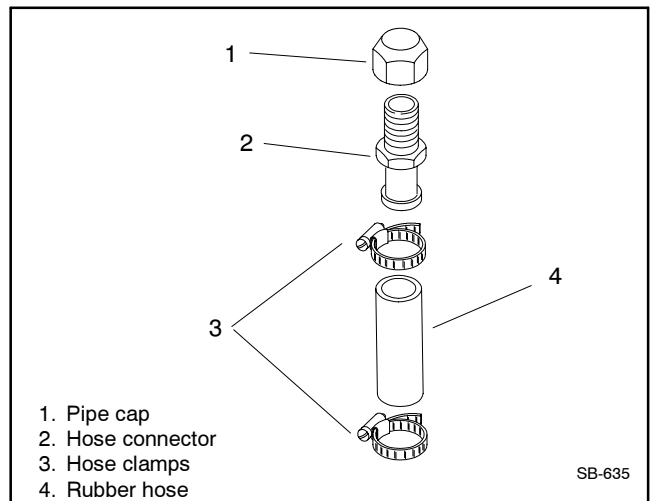

Figure 2 Replacement Kit Components
- 2.5 Install replacement kit components. See Figure 2.